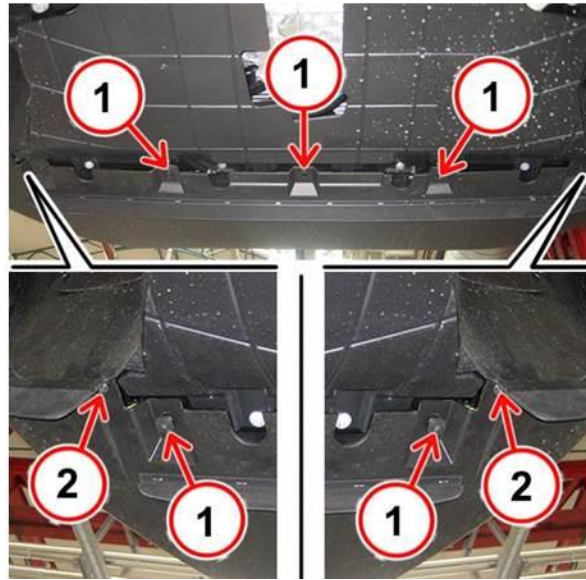

Fig. 1 Remove Front Bumper Fascia Lower Edge Fasteners
2. Remove the lower fasteners (1 and 2) from the front bumper fascia lower edge (Fig. 1).